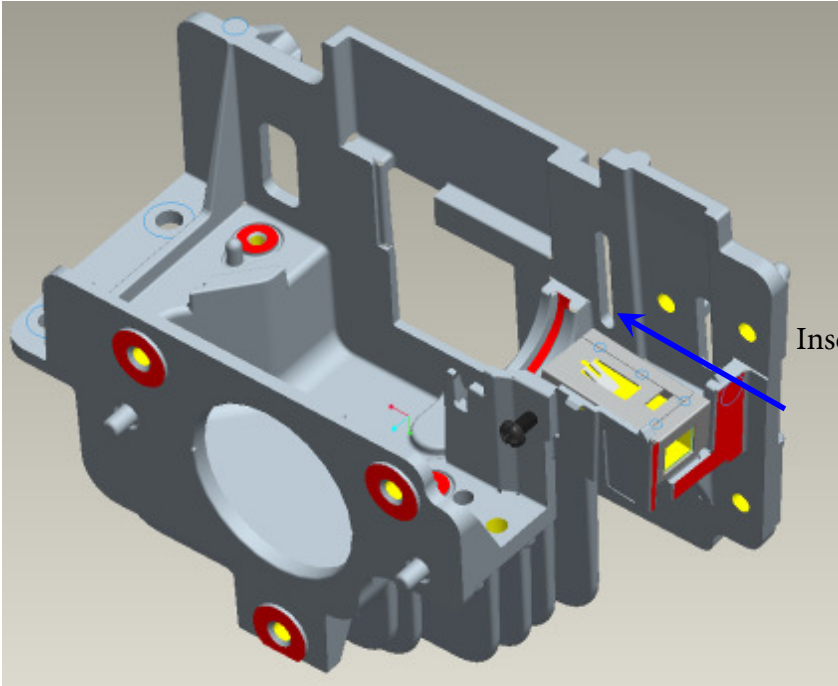

Fig. 1-3
- ii. Press CLIP of BKT LP first and push it into the hole (Fig. 1-3).